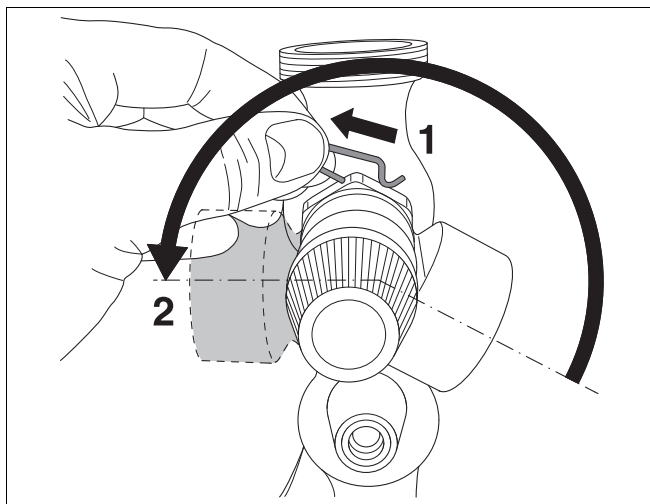

fig. 10 Removing the retaining pin
- Remove the retaining pin from the pressure relief valve body (fig. 10, **step 1**).
- Rotate the valve body (fig. 10, **step 2**).